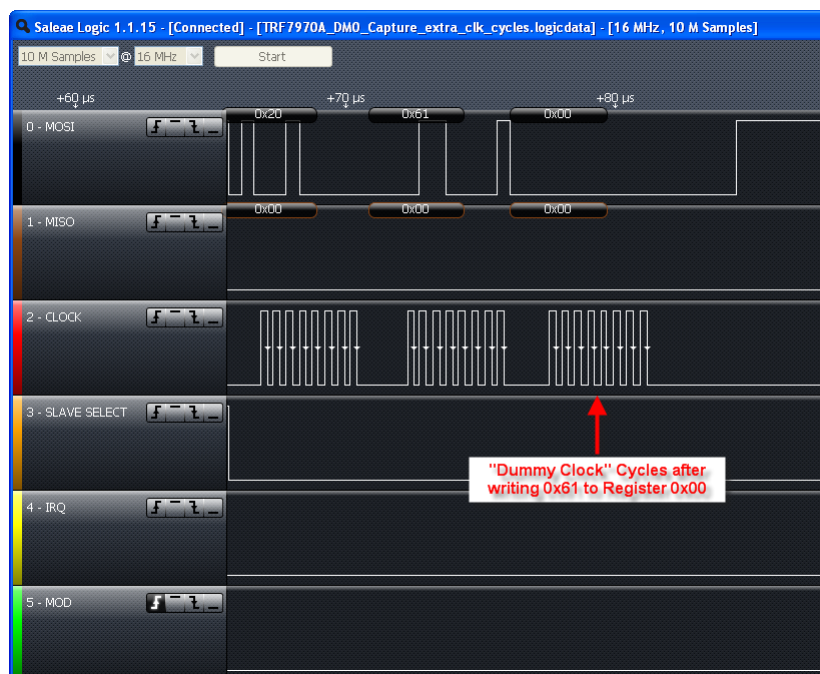

图 6-28. Entering Direct Mode 0
4. Send extra eight clock cycles (see 图 6-28, this step is TRF7970A specific)